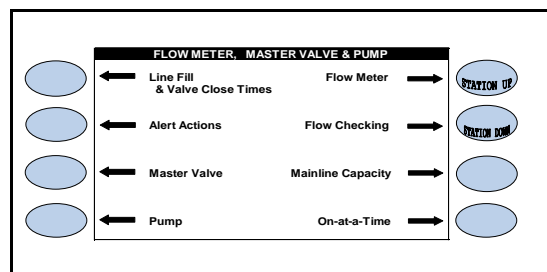

Figure 11.5
1. Press the **MAINLINE CAPACITY** Menu key (Figure 11.5).
4. Press the **BACK** key to return to the FLOW METER, MASTER VALVE, & PUMP screen (Figure 11.5).
From the FLOW METER, MASTER VALVE & PUMP screen (Figure 11.5).